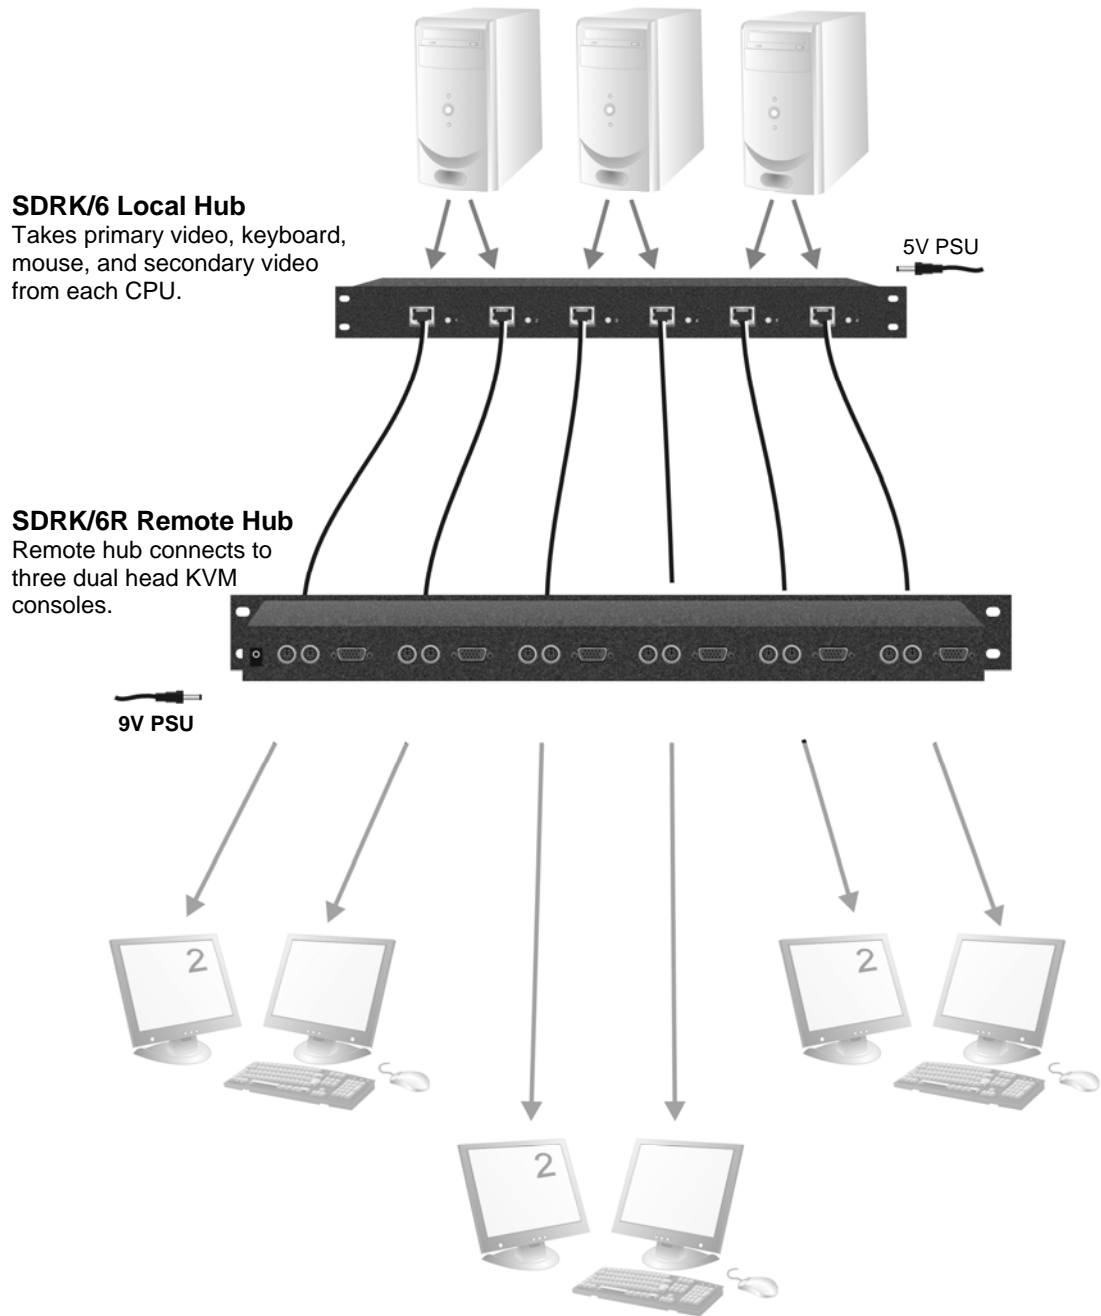

Figure 12 Dual Head extension using SDRK/6R Mini Extender Remote Hub
- SDRK/6R 6-port mini Remote Hub used with SDRK/6 local rack for 'three desk', dual video extension (Figure 12).